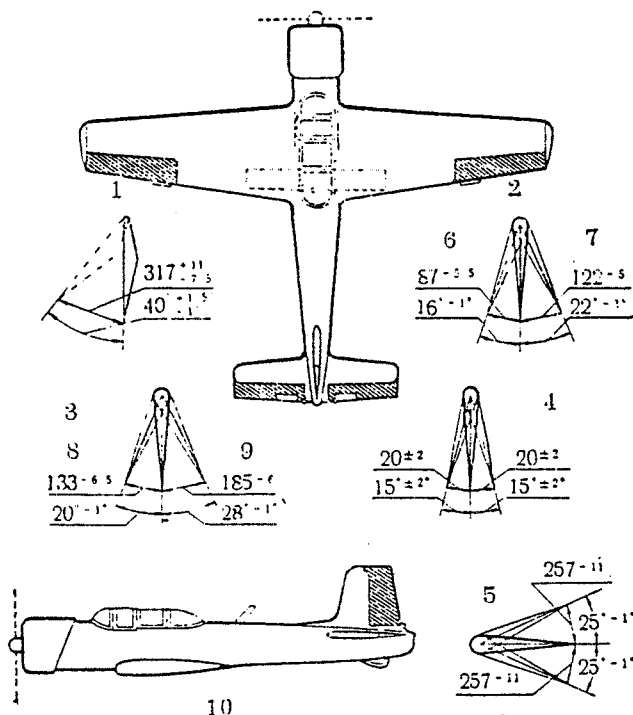

Fig. 3-7 Control Surfaces Movements
Article 166 Measure the movements of the flap, aileron, trim tab, rudder and elevator (Fig. 3-7).
- Article 174 Measure the movements of the flap, aileron, trim tab, rudder and elevator (Fig. 3-7).